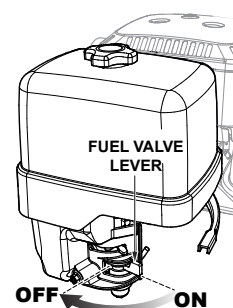

Figure 21. Fuel Valve Lever (OFF)
3. Place the fuel shut-off lever (Figure 21) in the **OFF** position.